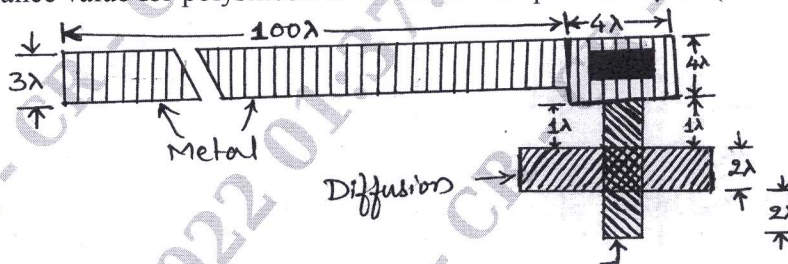

Fig Q3(b)
- b. Calculate the capacitance of the structure shown in Fig Q3(b) with the following data.